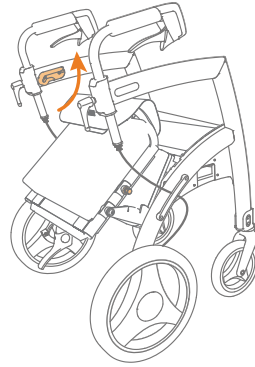
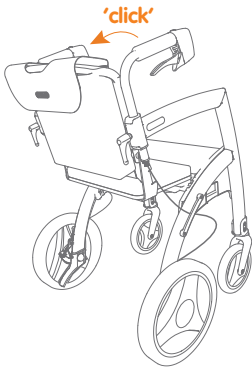

Figure 41: Pull the backrest further up.
Figure 42: Click the backrest into the guide rails.
- c. Pull the backrest further up and then back **(Figure 41)** so that the locking bolts click into the upper guide rails on the frame **(Figure 42)**. If the upper locking pins do not slide smoothly into the upper guide rails on the frame, push the backrest forward until halfway up the frame and try again.